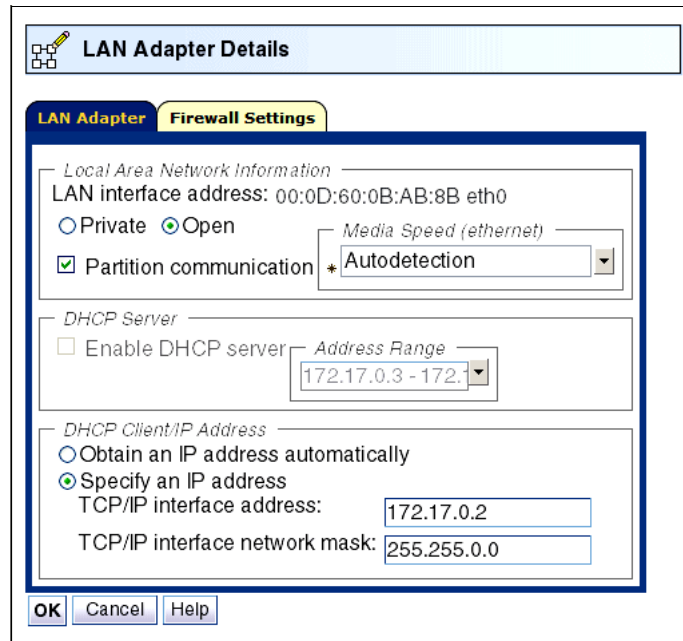

Figure 4-11 Customize Network Setting - LAN Adapters - partition communication
4. In the LAN Adapter Details window (Figure 4-11) on the LAN Adapter tab, select **Open** within the Local Area Network information area to enable the check box for Partition Communication. Then, select **Partition communication**.